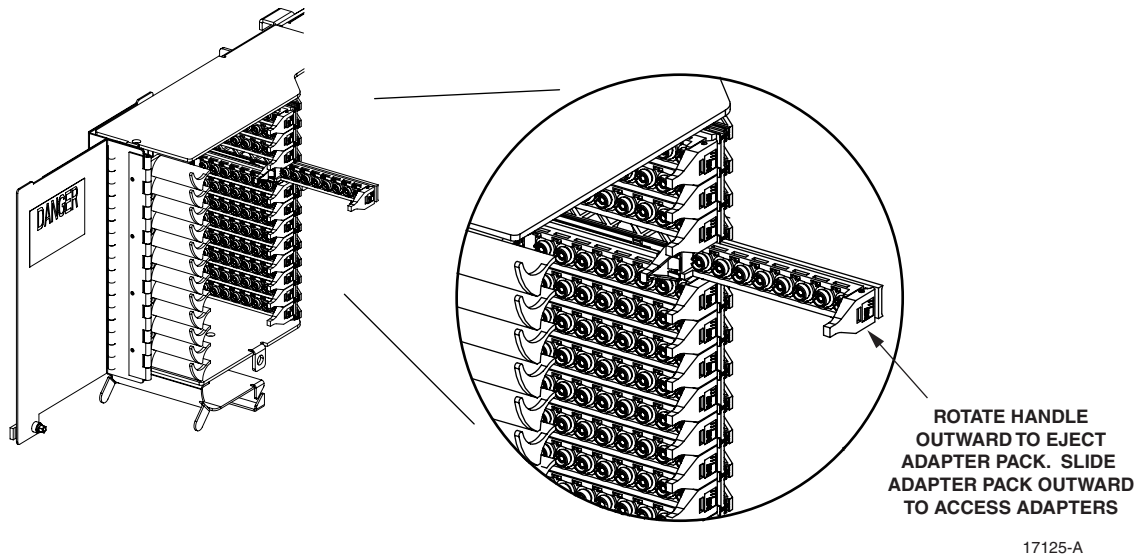

Figure 23. Access Adapter Packs in FTB
5. Slide the adapter pack out to provide access to the rear side of the adapters as shown in Figure 23.